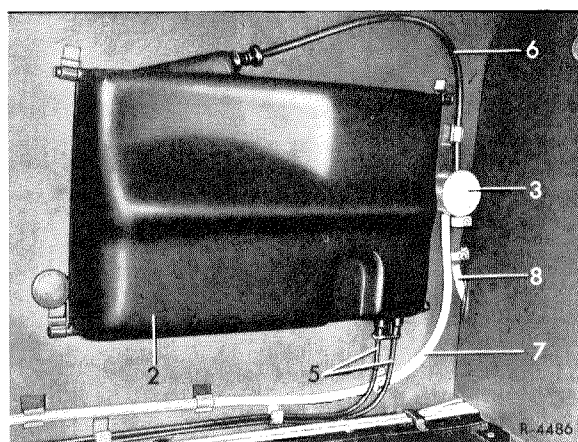

Fig. 47-2/5
If the pressure in the valve system (3) is 0.035 to 0.050  $\text{kp/cm}^2$ , or 0.055  $\text{kp/cm}^2$  in Models 280 SE/9 3.5 and 300 SEL/9 3.5, the pressure relief valve (c) will open and permit the fuel evaporations to flow into the ambient air via the venting line (7) (Fig. 47-2/5).